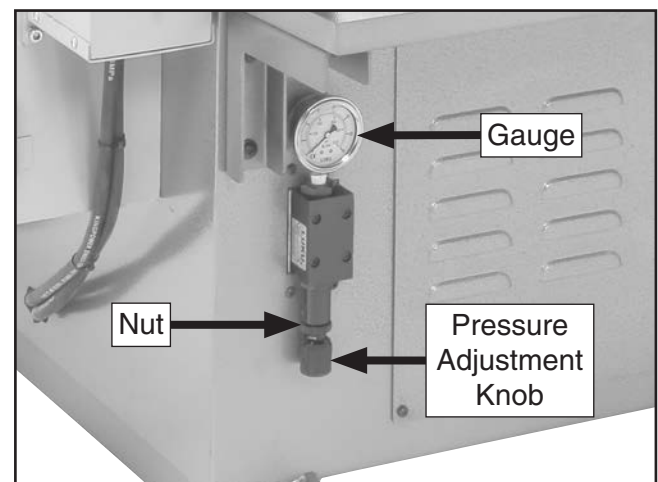

Figure 48. Vise clamping pressure adjustment components.
1. Loosen nut shown in **Figure 48**.
2. Adjust pressure adjustment knob until desired pressure on gauge has been achieved, then tighten nut to secure (see **Figure 48**).